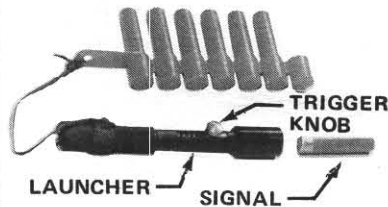

FIG. 2
4. PULL TRIGGER KNOB TO THE REAR OF SLOT WITH THUMB AND RELEASE QUICKLY (FIGURE 2).